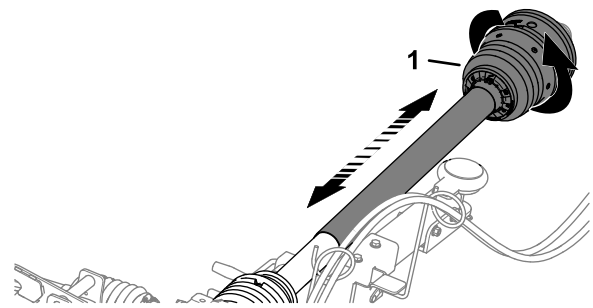

Figure 16
2. Rotate the forward half of the PTO shaft guard a full rotation (Figure 16).
3. Move the forward half of the PTO shaft guard together and apart to ensure that they telescope freely (Figure 16).